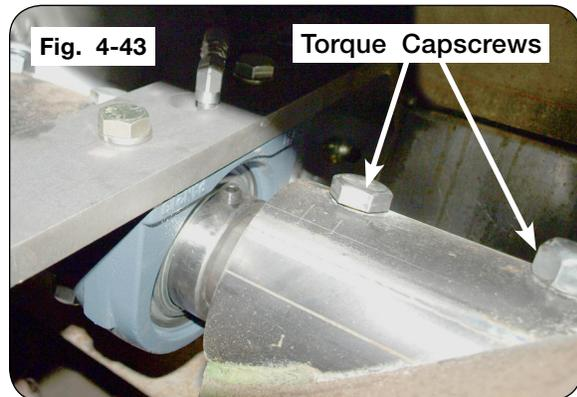

Fig. 4-43
34. Torque auger capscrews to 200 ft.-lbs. (Fig. 4-43)
35. Tighten bearing set screw. (Fig. 4-43)